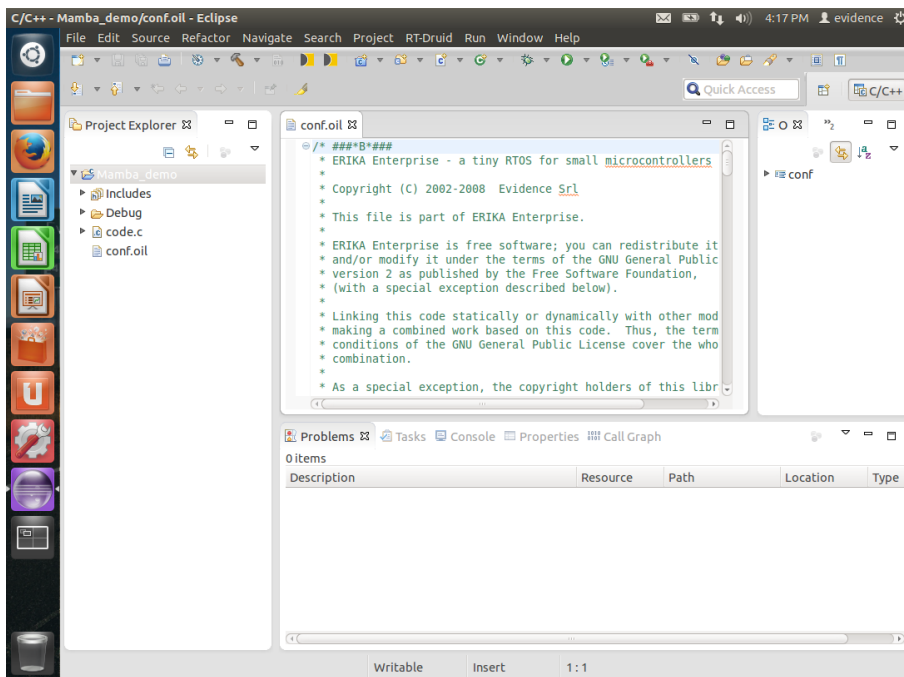

Figure 3.7: Eclipse opened with the demo example.
6. Click on the Finish button to create the example, as in Figure 3.7.